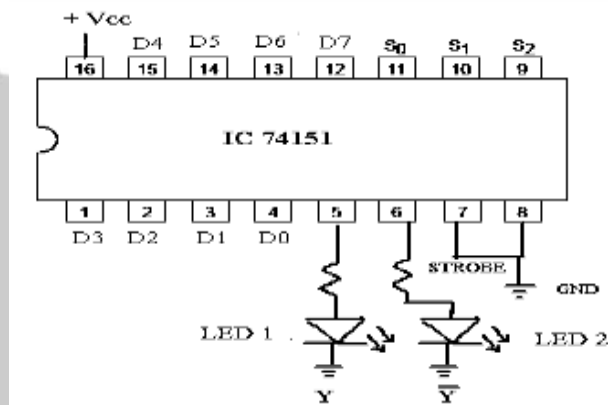

Fig 10.3: Circuit Diagram (8:1 Mux IC)
3. Make the connection as per fig 10.3